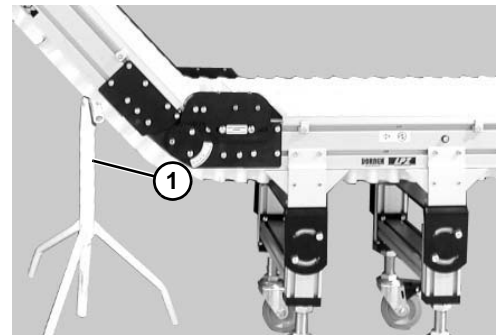

Figure 50
2. Place temporary support (Figure 50, item 1) under conveyor sections.